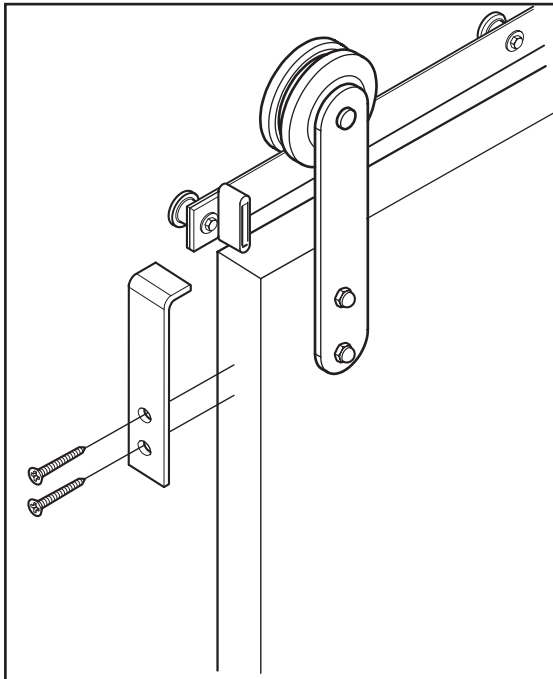

Figure 13
26. Install the bracket to the door edge with 2 phillips screws (provided) using a drill with a phillips bit (Figure 13).